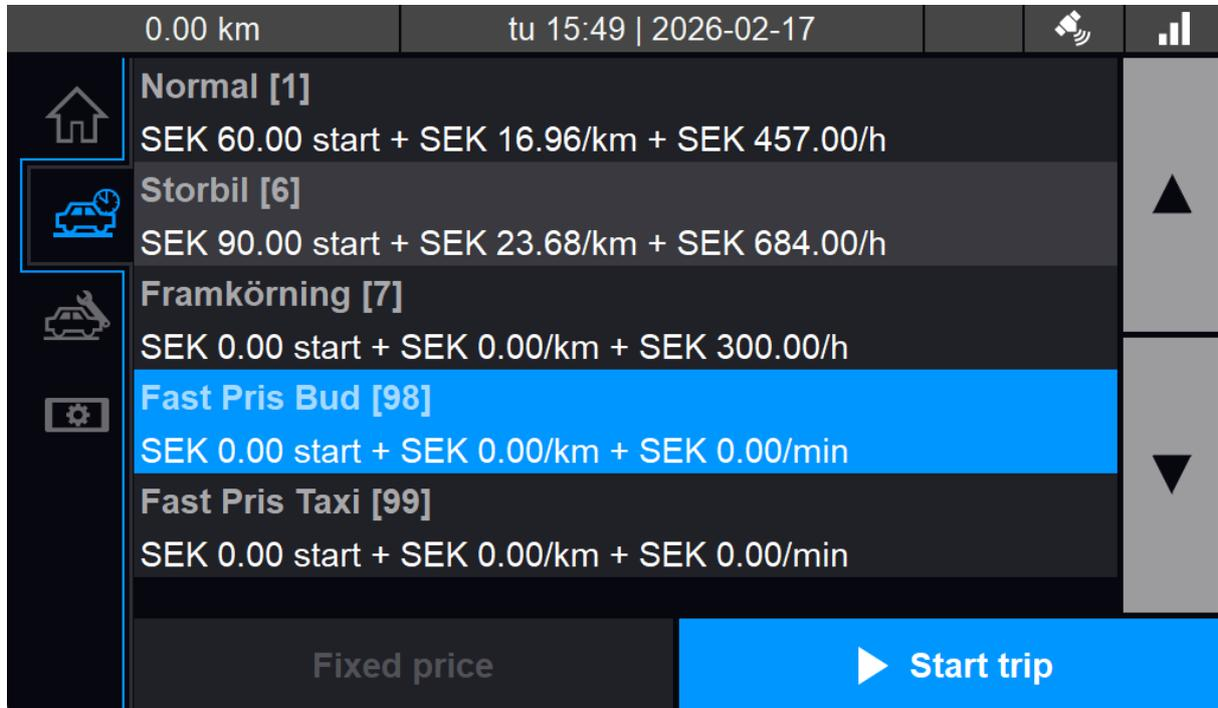

Figure 3-3: Taximeter tab
4. Open the workshop tab (Figure 3-3) and open the examination menu
2. Open the taximeter tab (Figure 3-3).